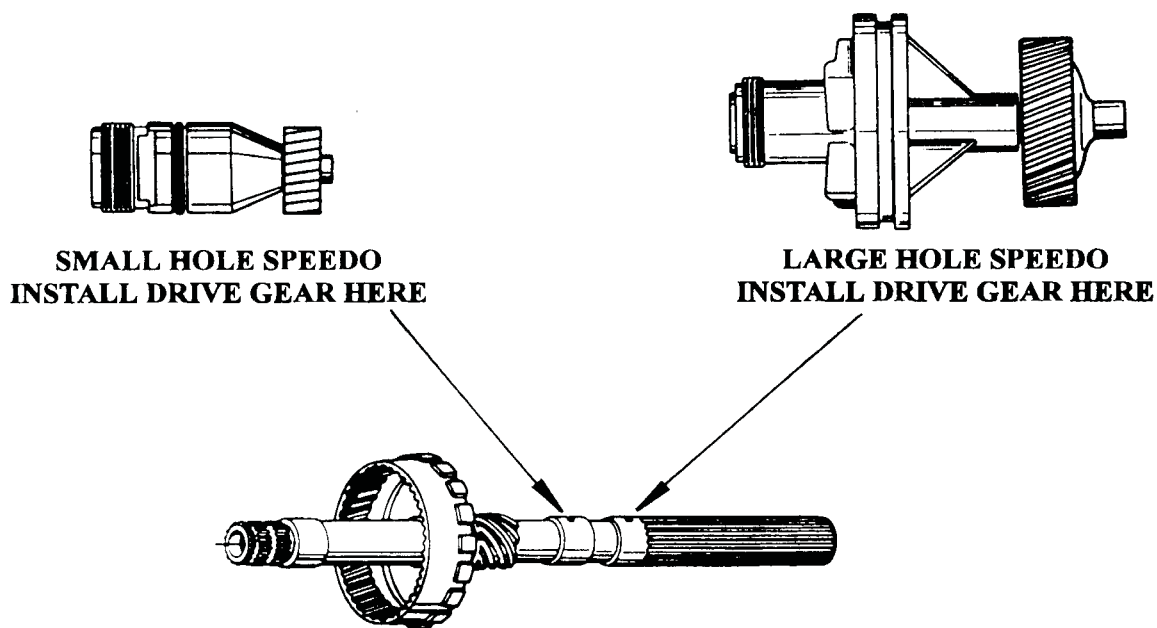

Figure 67
**Install the speedometer gear and clip in the location shown in Figure 67, so that it will be in line with the speedometer bore in case.**